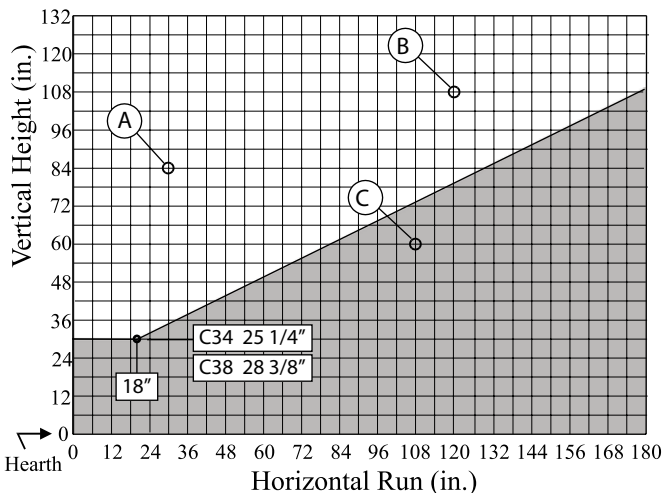

Figure 22. C-Series DV Multi-Elbow Venting Graph.
- your vent run must fall within the limits set by **Figure 22**.
Measure the vertical height from the fireplace hearth to the centre of the termination and the horizontal run from the fireplace flue collar to the wall flange of the termination. Plot on the Venting Graph (**Fig. 22**) with an 'X'.
Venting runs *must* fall within the limits set by the venting graph (see **Figure 22**).